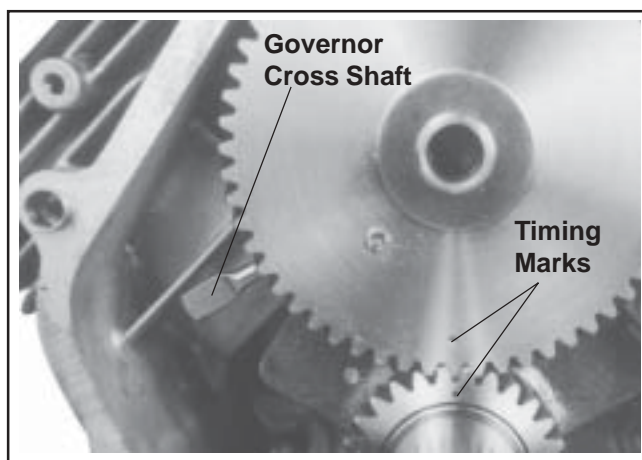

Figure 11-13. Aligning Crankshaft and Camshaft Timing Marks.
3. Turn the governor cross shaft clockwise until the lower end of the shaft contacts the cylinder. Make sure the cross shaft remains in this position while installing the camshaft. See Figure 11-13.
4. Slide the camshaft into the bearing surface of the crankcase, positioning the timing mark of camshaft gear at the 6 o'clock position. Make sure the camshaft gear and crankshaft gear mesh with both timing marks aligned. See Figure 11-13.
4. Make sure the end of the governor cross shaft is lying against the bottom of cylinder 1 inside the crankcase. See Figure 11-13.